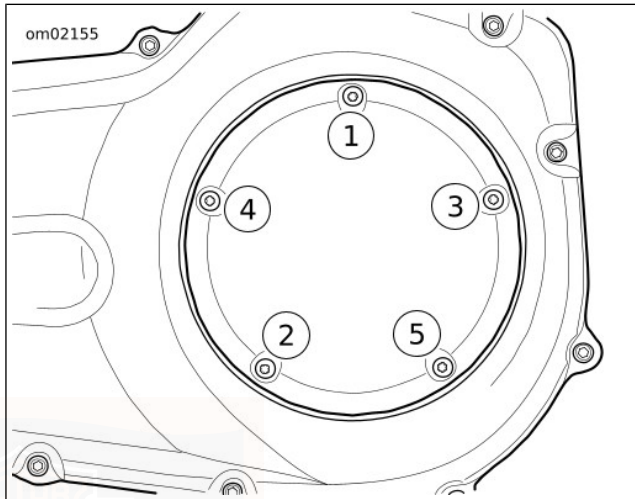

Figure 54. Clutch Cover Torque Sequence
- c. Secure clutch inspection cover (2) with screws with captive washers (3).
- d. See Figure 54. Tighten in sequence shown to 9.5–12.2 N·m (84–108 **in-lbs**).